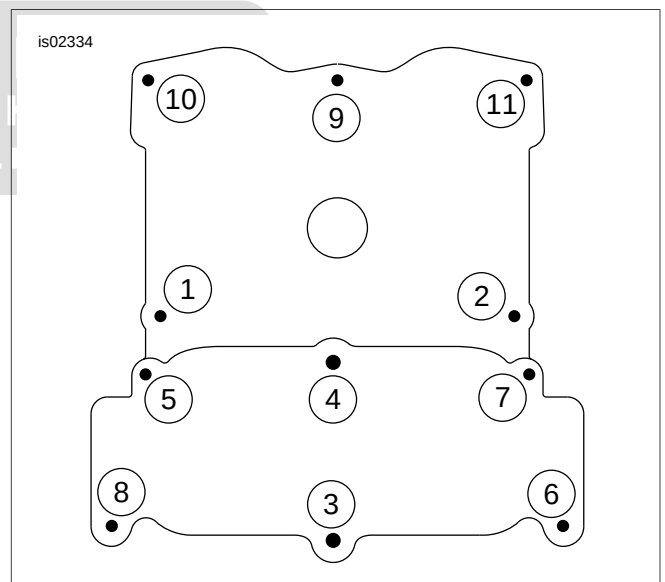

Figure 3-54. Cam Cover Torque Sequence
35. See Figure 3-54. Install fasteners in cam cover and tighten to 11 Nm (97 **in-lbs**) in sequence.